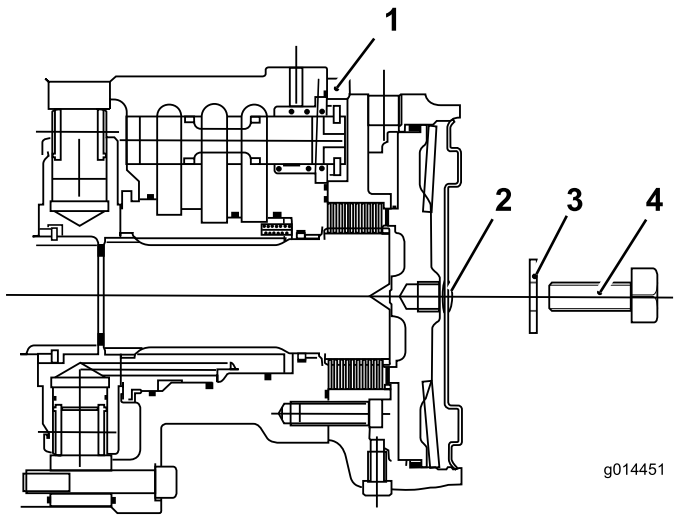

Figure 48
1. Remove the bolt (12 x 40 mm) and washer (12 mm) from the hole at the center of the motor end plate (Figure 48).